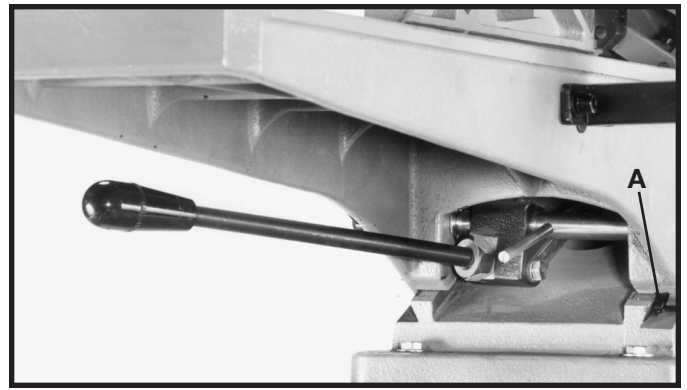

Fig. 46
“Gibs” are provided to take up any play that may develop between the mating dovetailed ways of the base and the infeed and outfeed tables, due to excessive wear. The gib for the infeed table is shown at (A) Fig. 46. Proper gib adjustment is necessary for the functioning of the jointer. The gibs were adjusted at the factory and should not require further adjustment. However, if it ever becomes necessary to adjust the gibs, due to excessive wear, proceed as follows: